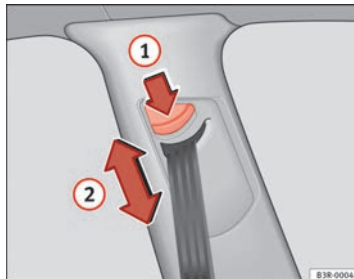

Fig. 16 Belt height adjuster
- Press button ⇒ Fig. 16 ① to adjust the belt height.
- Take hold of the top guide fitting and slide it up or down so that the shoulder part of the seat belt is positioned roughly midway over the shoulder, although **it must never rest against the neck** ⇒ Fig. 16 ② ⇒ ⚠ in Seat belt position on page 25.